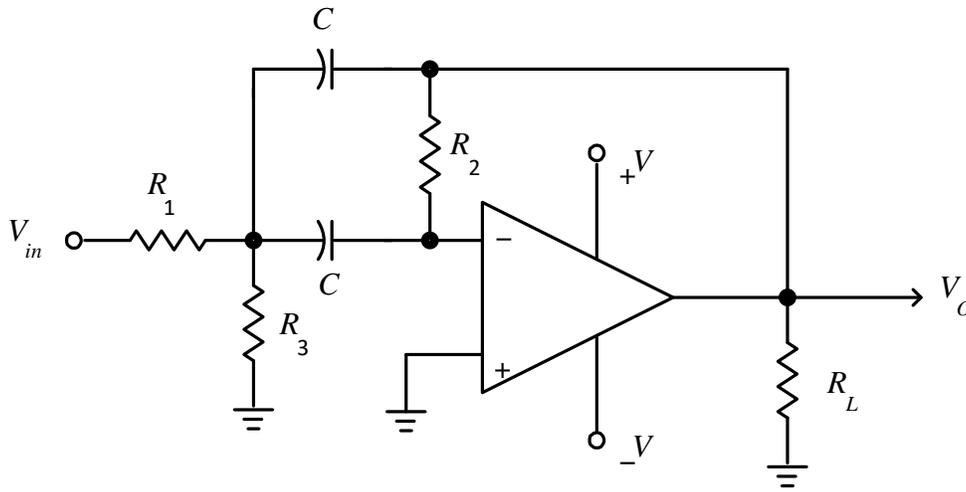

Figure 1: An op-Amp band-pass filter.
1. Figure 1 shows one of many possible band-pass filters that can be synthesized with an op-amp. With this design the filter can supply gain, and can change the center frequency by adjusting only one resistor. Design of this filter is best started by choosing a reasonable capacitance for C . The smaller the value of C , the larger the resistors can be. Choose a non-polarized capacitor for this capacitance. For this experiment, set C to 4.7 nF.
2. Breadboard the circuit of Figure 1 using the chosen components. Use a ± 12 V supply, and a 741 op-amp. Check with the data sheet or lab instructor to get the op-amp pin assignments. And finally, set R_L to 3.3 k.